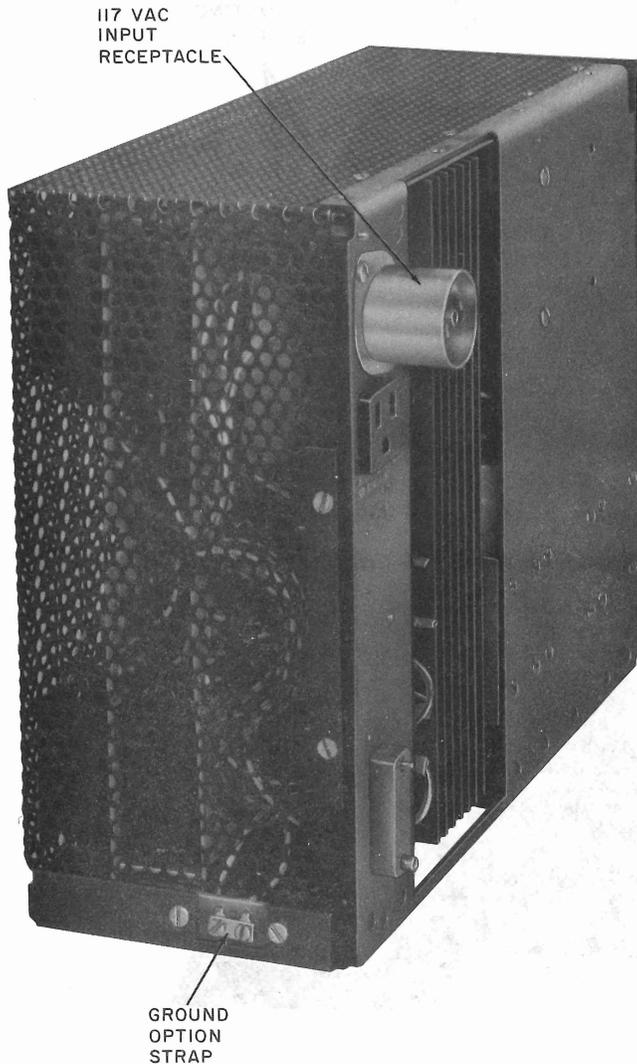

Fig. 6—229A Power Unit
2.07 The dc voltages are supplied to the data sets via the data mounting by the 229A power unit (Fig. 6). The 229A power unit is mounted on the right side of the data mounting. Four regulated voltages (+12, -12, +5, and -5 volts) are required for each DS 407C. The 229A power unit supplies four sets of these voltages, (one per data set). The four sets of voltages are independent of each other; thus, a failure of one set of voltages does not cause a failure of all data sets in the data mounting. The power unit is designed to operate on an input voltage of 106 to 127 volts at 60 \pm 0.1 Hz.